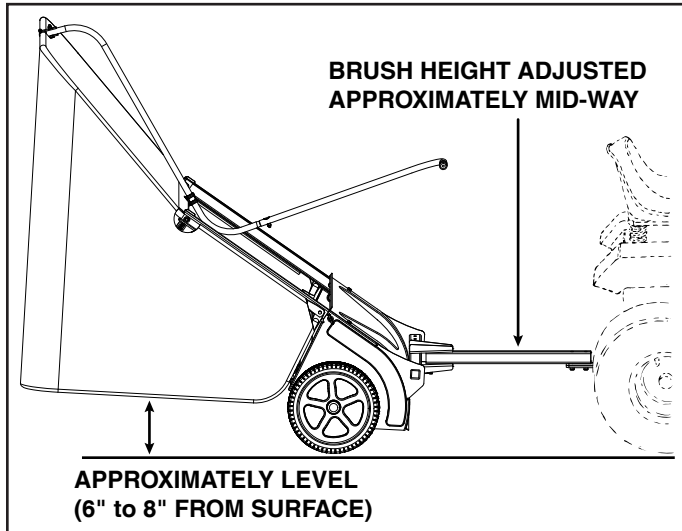

FIGURE 19
- IMPORTANT:** To obtain the best performance from your sweeper, arrange the spacers so that the sweeper bag is approximately level with the ground as shown in figure 19.